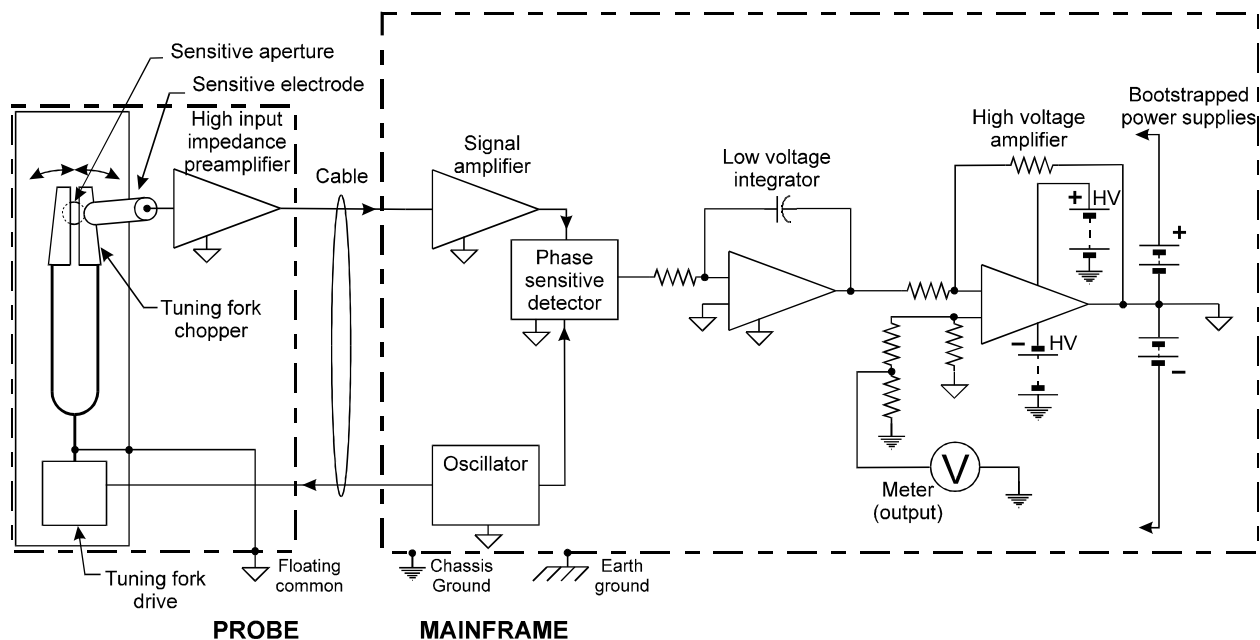

Figure 5-1
A. General: Principle of Operation (See Figure 5-1)